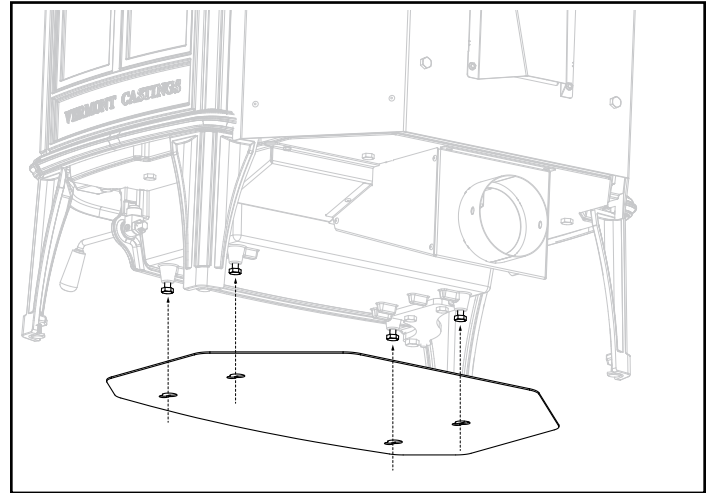

Figure 5.3 - Attach the bottom heat shield.
2. Pass all four bolts through the large end of the keyholes and then pulling the shield forward to engage the smaller ends of the keyhole slots, Figure 5.3.